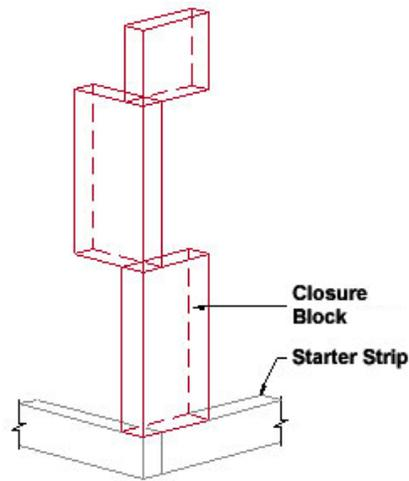

Fig. 26
1. Install 6 in (152 mm) wide Closure Blocks around all openings and tops of compartments. Install 12 in (305 mm) wide Closure Blocks on alternating sides of outside corners (see Figure 26), at vertical compartment boundaries (see Section VIII.C), and vertical system terminations.
- a. Install 12 in (305 mm) wide Closure Blocks on alternating sides of inside and outside corners as shown in Figure 26.